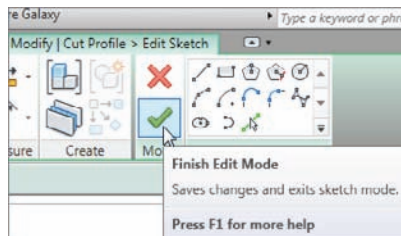
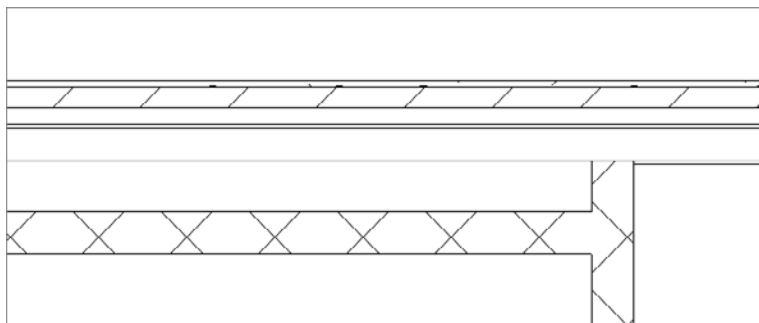

FIGURE 2.63 Clicking Finish Edit Mode will finalize the session and complete the command.
FIGURE 2.64 The finished wall with the drywall deduced from the core of the chase
10. What you see here is called Sketch Mode. Because you're finished sketching the cut profile, click Finish Edit Mode, as you can see in Figure 2.63. Figure 2.64 shows the final result.